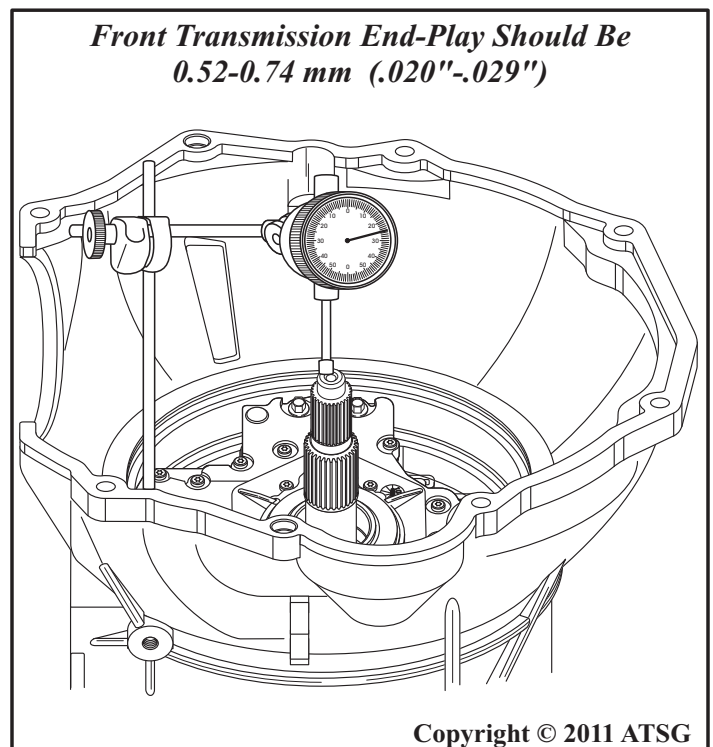

Figure 153
28. Remove one pump bolt to install dial indicator, as shown in Figure 153, and zero dial indicator.